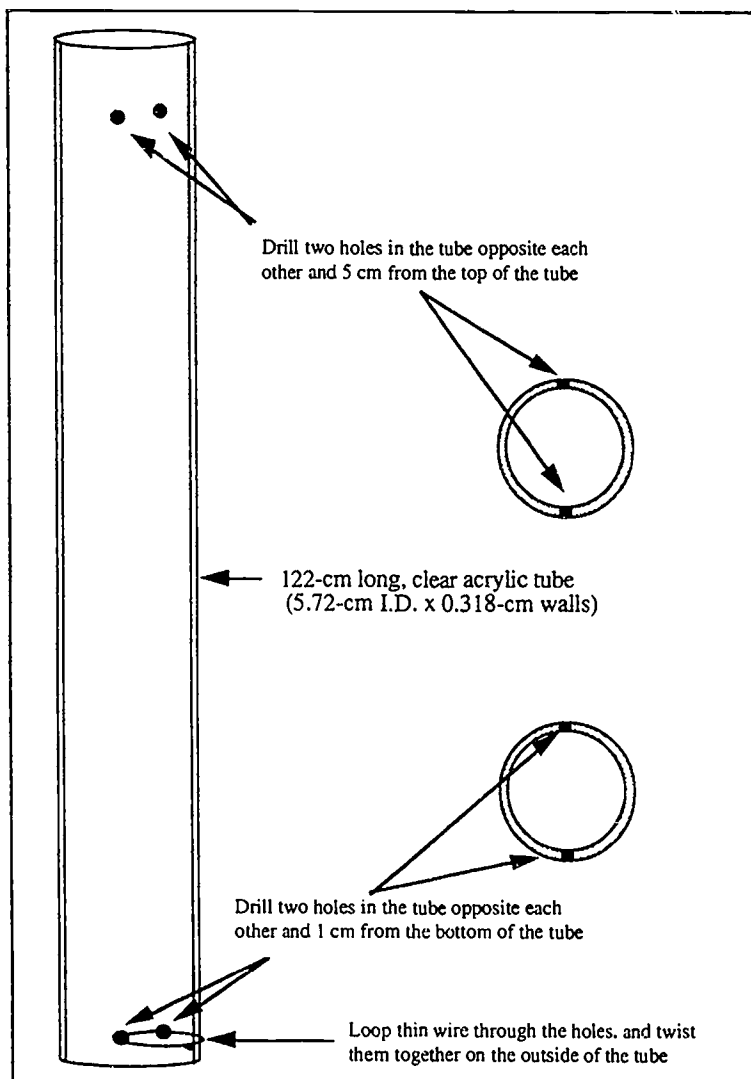

Fig. 2. Drilling holes and inserting a wire loop into the larger acrylic tube.
3. Drill two holes 5 cm (2 in) from the top of the larger acrylic tube on opposite sides of the tube. Use a 1/8" drill bit (See Figure 2).
4. Drill two holes 1 cm (1/2 in) from the bottom of the tube on opposite sides of the tube. Use a 1/8" drill bit (see Figure 2).